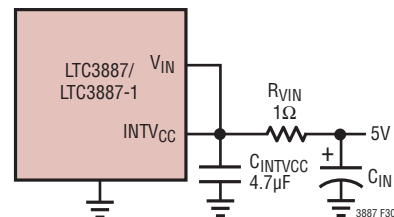

Figure 30. Setup for a 5V Input
For applications where VIN is 5V, tie the VIN and INTVCC pins together and tie the combined pins to the 5V input with a 1Ω or 2.2Ω resistor as shown in Figure 30. To minimize the voltage drop caused by the gate charge current, a low ESR capacitor must be connected to the VIN/INTVCC pins. This configuration will override the INTVCC linear regulator and will prevent INTVCC from dropping too low and will minimize the chip power consumption. Make sure the INTVCC voltage exceeds the RDS(ON) test voltage for the MOSFETs which is typically 4.5V for logic level devices. The UVLO on INTVCC is set to approximately 4V.